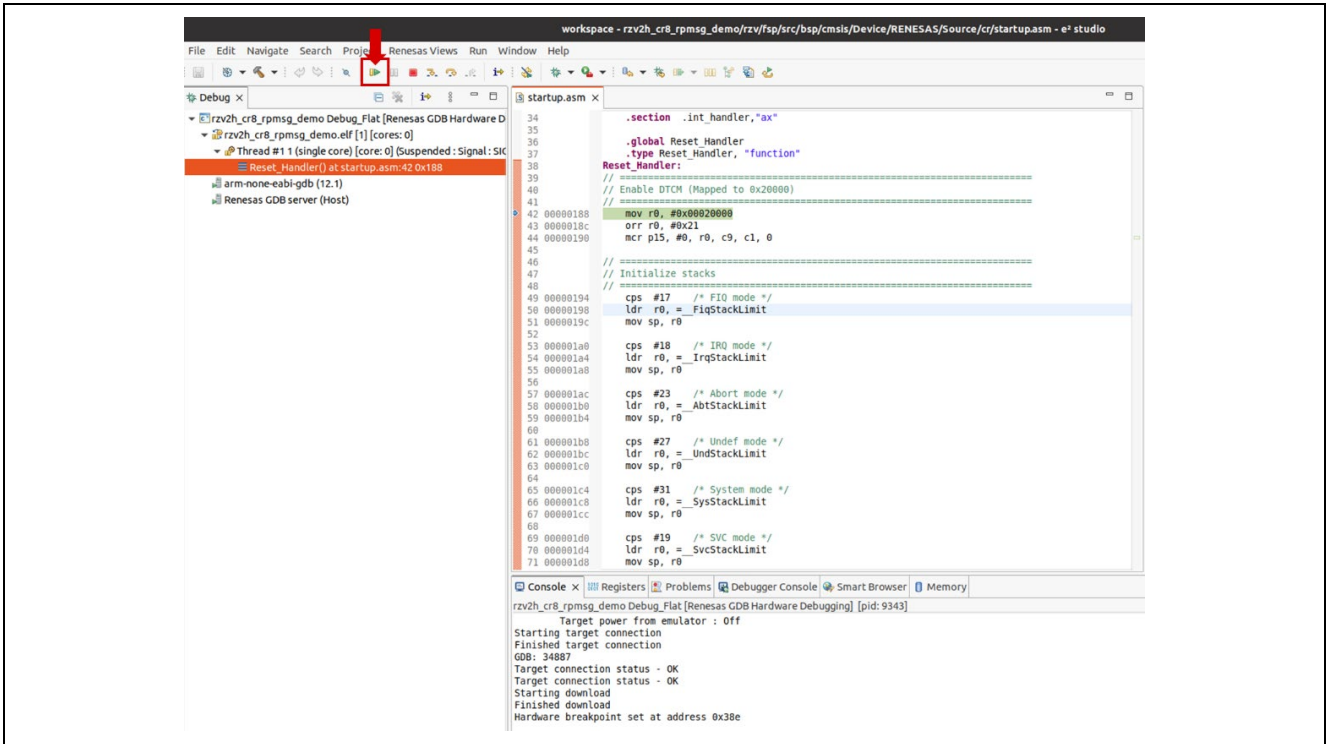

Figure 4-7. How to start to debug Sample Project (1)
3. When **Debug Perspective** is opened, Program Counter (PC) should be located at the top of **Entry\_Function\_S** and **Reset\_Handler** for CM33 and CR8 sample project, respectively. Then, press the button shown in Figure 4-7.